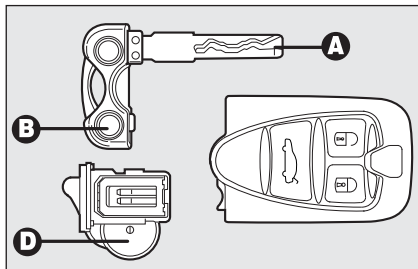

fig. 9
To change the battery **fig. 9** proceed as follows:
- remove the battery **D-fig. 9** from the case taking note of the bias (in the figure the positive pole is facing downwards);